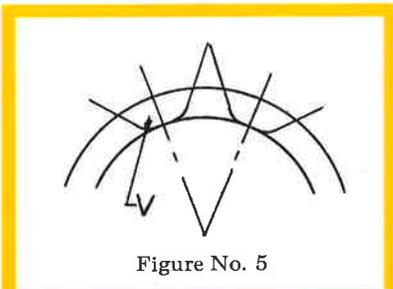

Figure No. 5
STEP No. 8: Draw the pocket radius (V) equal to $E/3$, tangent to the working face and to the bottom diameter. (See Figure No. 5).